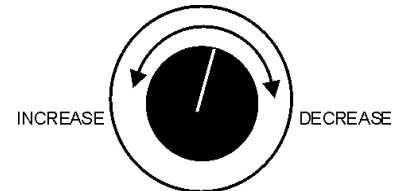

**Figure 41. Frequency Meter (Hz)**
- The generator's frequency meter (Figure 41) displays the 60 cycle output frequency in **HERTZ**.